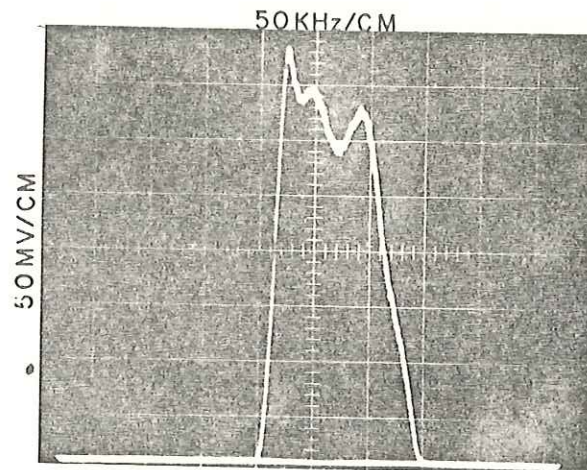

Figure 4-11. Typical Response, 21.4 MHz IF Amplifier (100 kHz BW)
- (5) Adjust A8A1C10 for proper shaping and response.
- (6) Adjust A8A1R12 for maximum signal amplitude.
- (7) Adjust A8A2C14 for overall response. A typical response curve is shown in Figure 4-11. It should be noted that the response characteristics are largely determined by filter FL1 and it may not be possible to obtain a flat response across the 100 kHz BW.